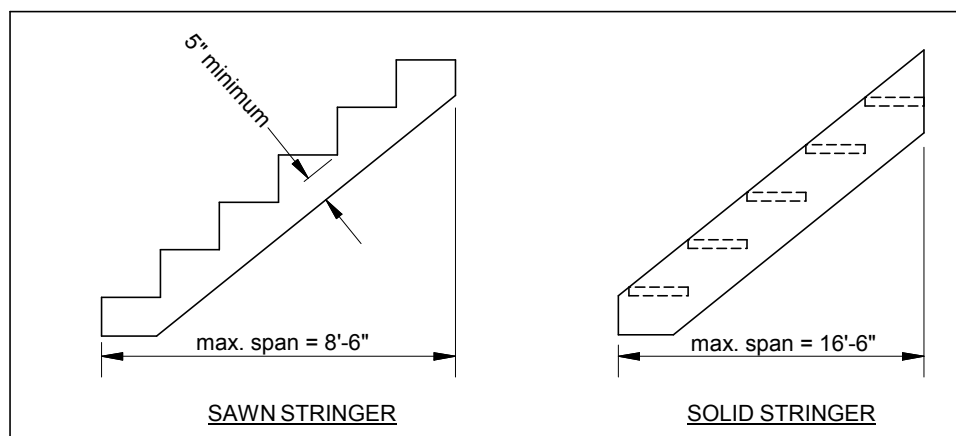

FIGURE 32: STAIR STRINGER REQUIREMENTS
Stringer spans shall not exceed the values shown in FIGURE 32. If a stringer span exceeds the limits shown, a 4x4 post may be provided to support the stringer at mid span to shorten its span length. The 4x4 post shall be notched and bolted to the stringer with (2) 1/2" dia. through-bolts with washers per FIGURE 10. The post shall be centered on a 12" dia. or 10" square, 4" thick conc. footing. The footing shall bear 24" below grade, and the post shall be attached to the footing per FIGURE 12. An intermediate landing may also be provided to shorten the stringer span.